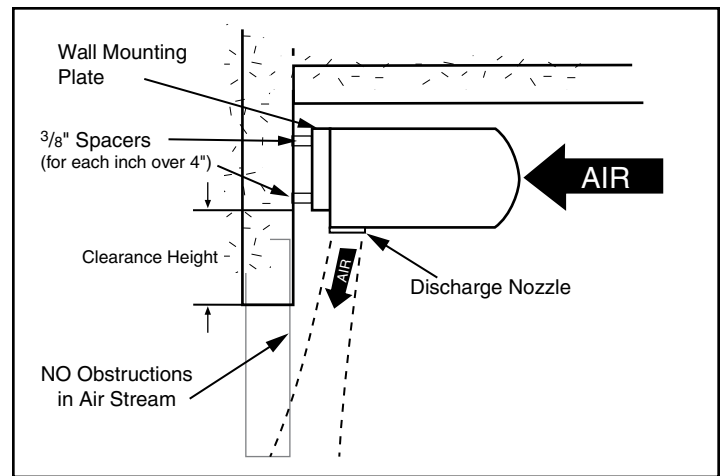

FIGURE 3 - High Wall Mounting
- B. For optimum performance, the bottom of the air curtain (discharge nozzle) should be no more than 1" above the top of the door opening with the air curtain(s) mounted flush to the wall. If the air curtain must be mounted higher, it must be **spaced out** from the wall $\frac{3}{8}$ " for every inch the air curtain is above the door opening. See Figure 3. For optimum protection, any void between the air curtain and the wall should be sealed along the full length of the air curtain.
High Wall Mounting must be used if the wall mounting plate must be mounted higher than 4" above the door opening: the mounting plate must be spaced out from the wall $\frac{3}{8}$ " for every additional inch (over 4") that the air curtain is above the door opening (clearance height). See Figure 3. For optimum protection, do not exceed the recommended maximum mounting height of 8' above the finished floor. Any void between the mounting plate and the wall should be sealed along the full length of the mounting plate.